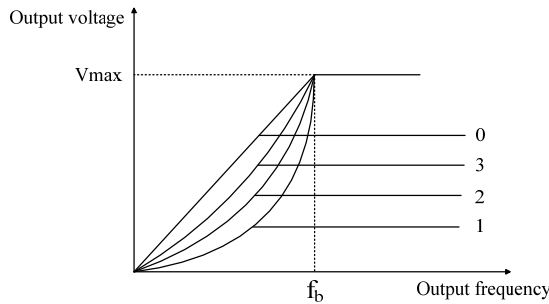

Figure 4-2 Motor V/F curve
- The default V/F is a straight line, as the line 0 in Figure 4-2.
- When P00.23 (P06.01) is set to 1, it is a 2.0 law ramp, curve 1 in figure 4-2.
- When P00.23 (P06.01) is set to 2, it is a 1.7 law ramp, curve 2 in figure 4-2.
- When P00.23 (P06.01) is set to 3, it is a 1.2 law ramp, curve 3 in figure 4-2.